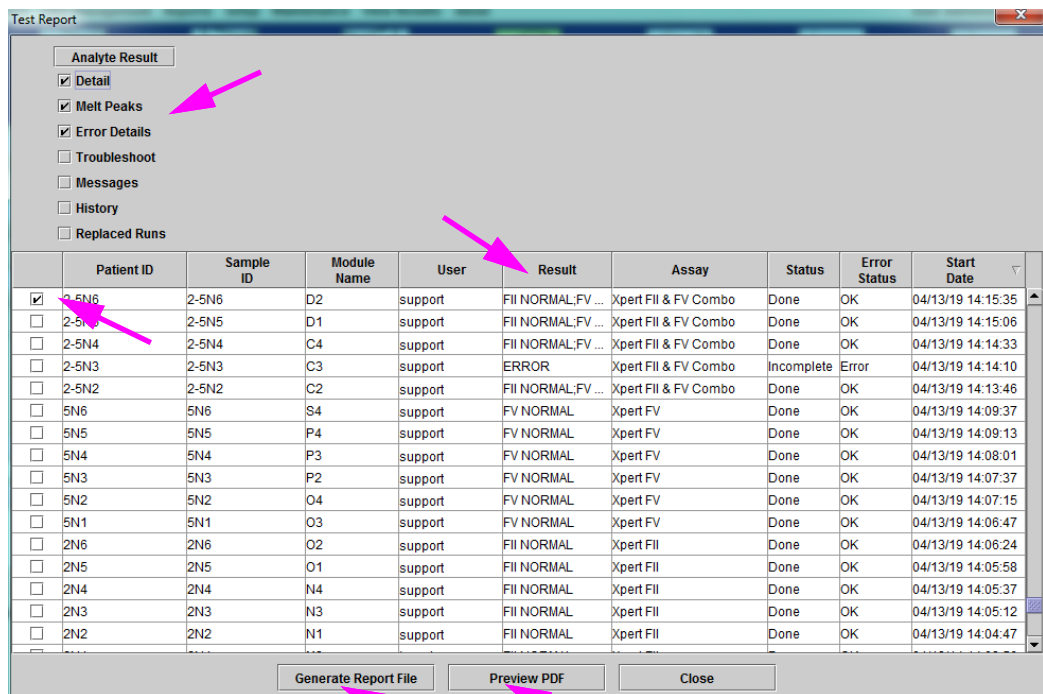

Figure 5-52. Select Test to Be Viewed Dialog
- Click the **Generate Report File** button on Test Report workspace (see Figure 5-52) to create the PDF file of the test report. The Generate Report File dialog box will appear, which enables you to save the file to a specified location. Click **Save** once you have navigated to the specified location.